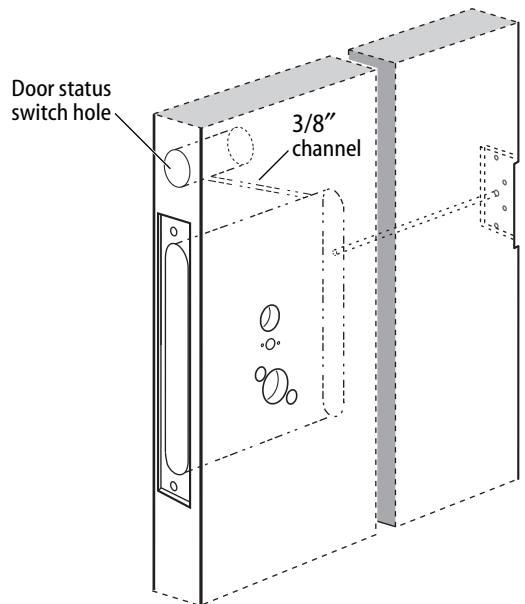

Figure 4 Preparing for the door status switch
- 1 Locate the centerpoint for the door status switch 2.5" above the top of the faceplate mortise on the edge of the door (as shown in Figure 4).
- 3 Position the drill so the tip of the bit is approximately 1" into the hole and the bit is close to the top edge of the hole. Then drill a 3/8" channel at approximately a 35° angle from the door status switch hole into the mortise cavity (as shown in Figure 4).